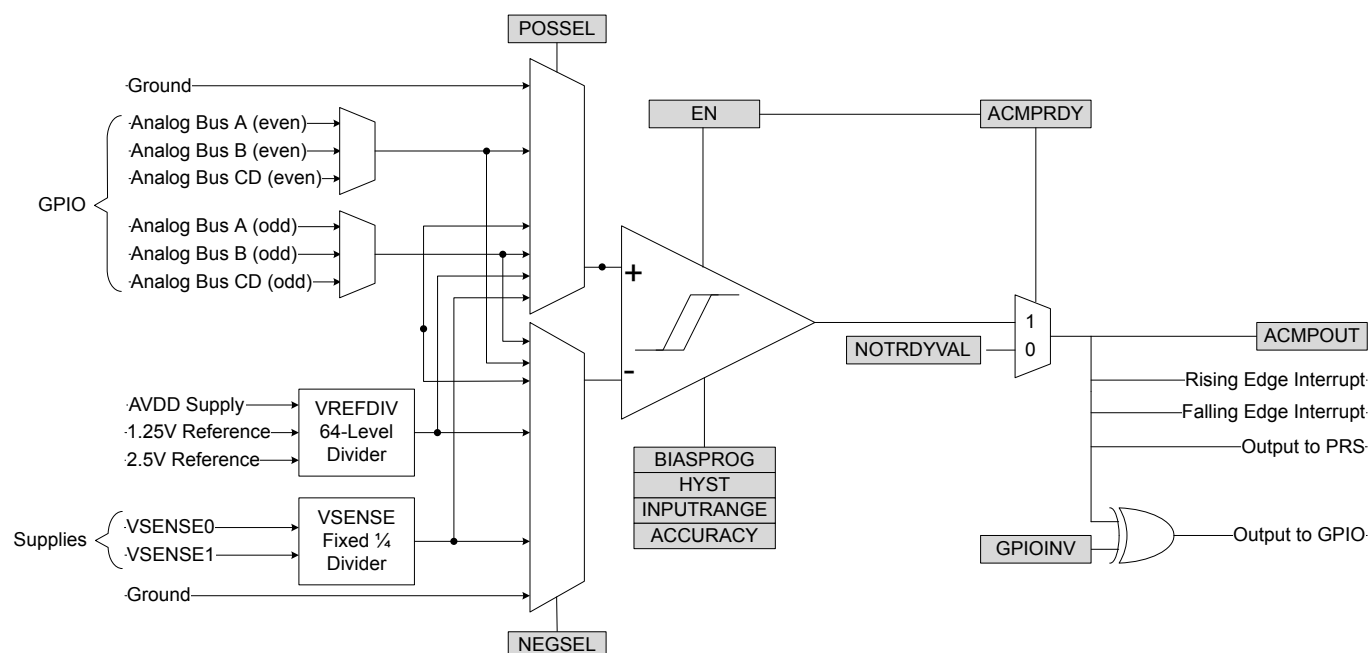

Figure 22.1. ACMP Overview
An overview of the ACMP is shown in Figure 22.1 ACMP Overview on page 599.
The ACMP can be used to monitor supply voltages. This is done by selecting VSENSE01DIV4(LP) or VSENSE11DIV4(LP) for either POSSEL or NEGSEL. Note that the input to the comparator core will be divided by 4, as illustrated in Figure 22.1 ACMP Overview on page 599. To reduce energy consumption, a sample/hold circuit can be used to periodically sample the power supplies. To enable this, select VSENSE01DIV4LP or VSENSE11DIV4LP in POSSEL / NEGSEL. Because the sample/hold feature uses the comparator in a non-continuous fashion, enabling this will increase response times and reduce the accuracy of the comparator. The connections between VSENSE0 and VSENSE1 to power supplies are summarized in the table below.